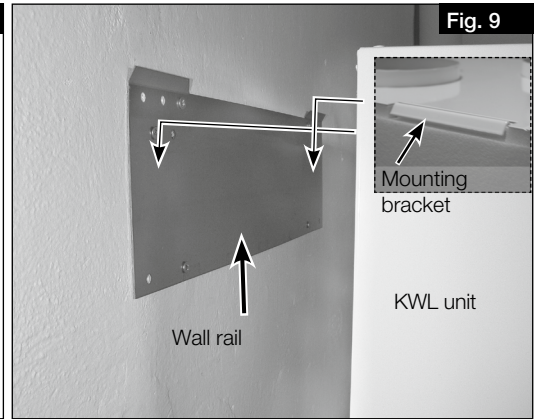

Fig. 9
5. Hang the unit mounting bracket on the wall rail (see Fig. 9).